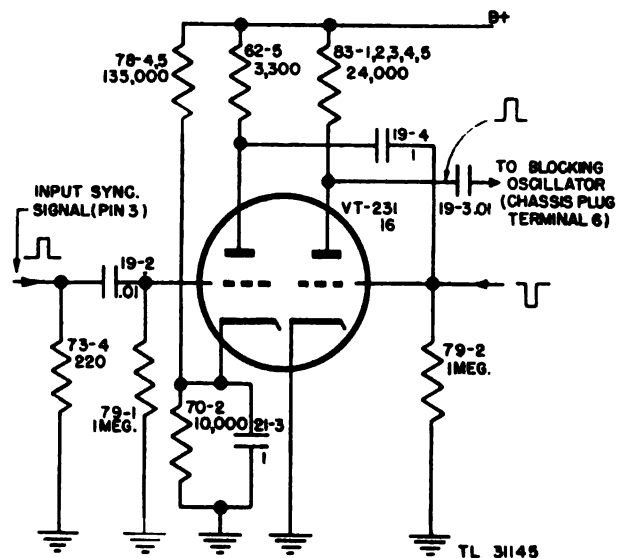

Figure 77. Transmitter, synch-amplifier, partial schematic.
a. The transmitter trigger pulse is obtained from the interconnector. The pulse is applied to the grid of pulse-amplifier tube 16 through pin 3 of the interconnecting plug and capacitor 19-2. (See fig. 77.)